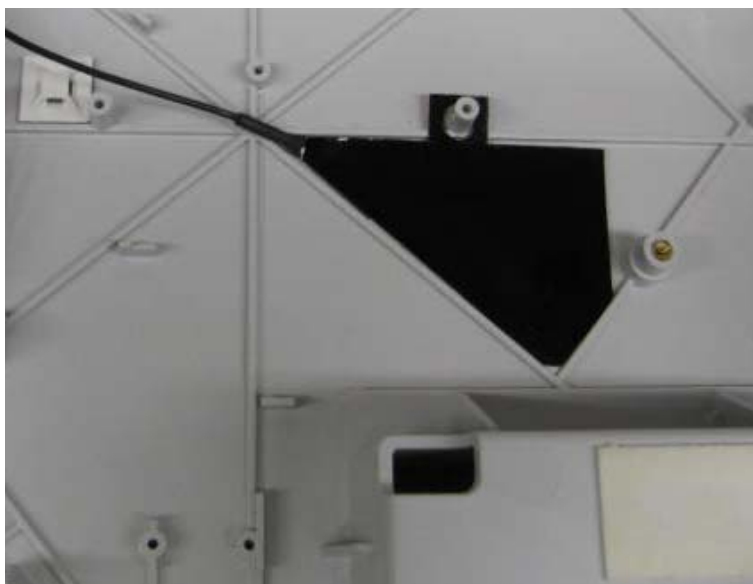

Figure 3
3. Remove backing from foam tape. Install the copper shield 714834 into the base housing copper side down making sure that the copper is aligned correctly and the hole is oriented over the mounting standoff as shown (Figure 3).